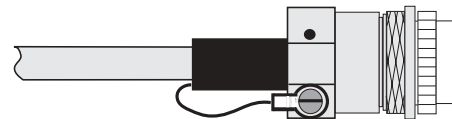

Figure 2-8. Load Cell Shield Wire Connection
**Caution** Shielding is connected at only one end (typically at the indicator end). If connected at the strain gauge end, disregard Figure 2-8.